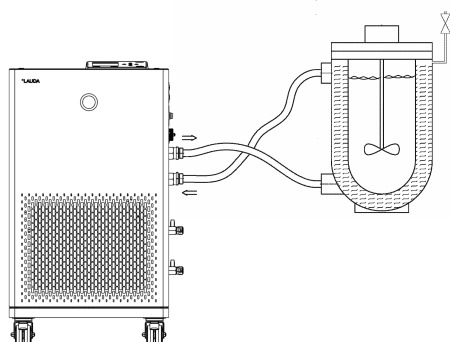

Fig. 33: Application with vent valve
- A vent valve Fig. 33 can significantly simplify the aeration process. For this purpose, periodically open the valve carefully and allow gas/air to escape until liquid escapes from the valve, and then close the vent valve again. Collect the liquid in a suitable container. Operate the valve again at regular intervals until no more air escapes.